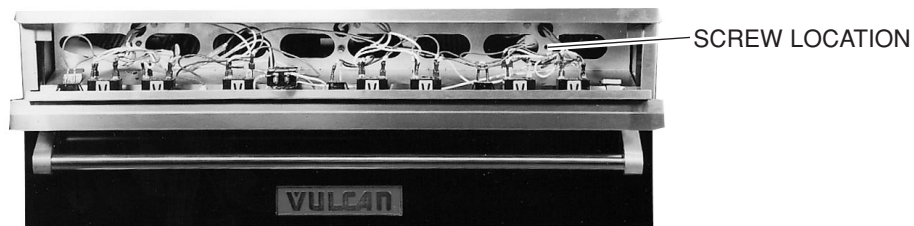

Fig. 31
2. Using a $\frac{5}{16}$ " socket, remove (1) 10-24 screw from the front burner box securing the top mounting bracket to the appliance. (Fig. 31)